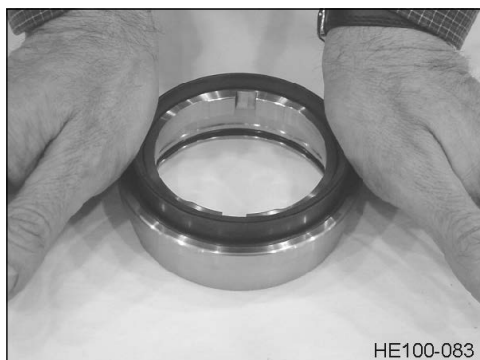

Figure 64 - Press Insert Down Evenly with Both Hands
2. Push the Seal Body Insert down evenly with both hands until it bottoms out. See Figure 64.